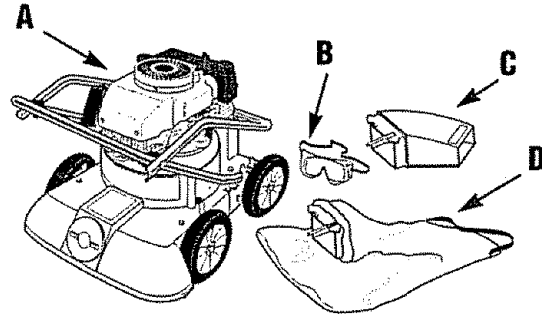

Figure 1: Contents of shipping carton.
Read these instructions in their entirety before you attempt to assemble your new chipper/vac. Your new chipper/vac has been completely assembled at the factory, except for the items shown in Figure 1. To ensure proper operation of your chipper/vac, all nuts and bolts must be securely tightened when changing the configuration of the machine. Use the correct tools as necessary to ensure proper tightness.
## UNPACKING INSTRUCTIONS (see Figure 1)
1. The following items are contained in the shipping carton and shown in Figure 1:
- (A) Chipper/Vac
- (B) Safety Goggles
- (C) Blower Deflector
- (D) Collection Bag